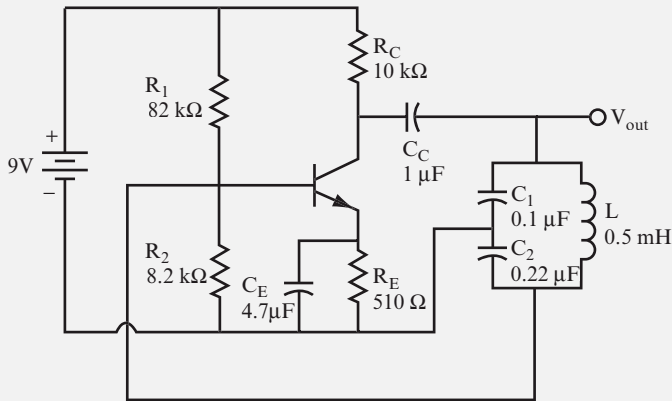

FIGURE 9.19
3. Disconnect the battery from the circuit, and make the changes required to set up Circuit #2, the Colpitts oscillator circuit with feedback to the base, as shown in Figure 9.19.